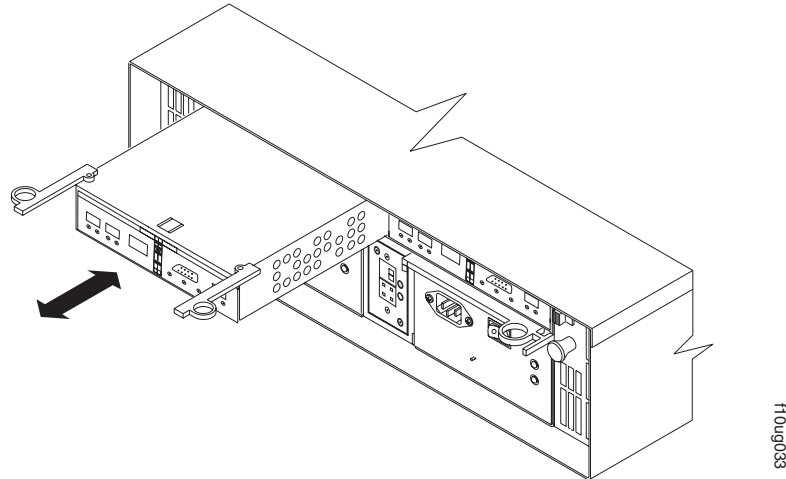

Figure 76. Installing a new RAID controller
20. Install the RAID controller, as shown in Figure 76.